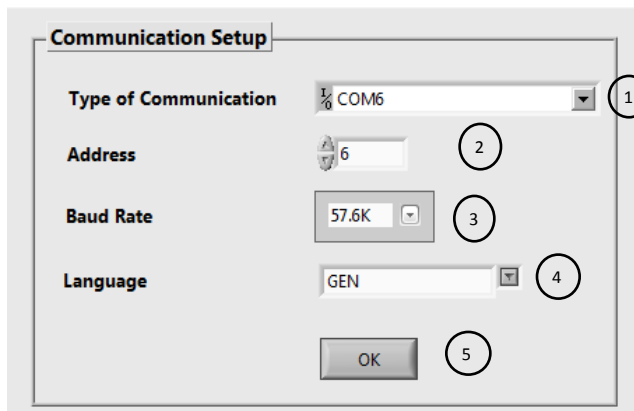

Figure 3 Communication Setup
Manual: Select required communication parameters such as: type of communication (1), unit address (2), baud rate (3) and language (4). Refer to Figure 3